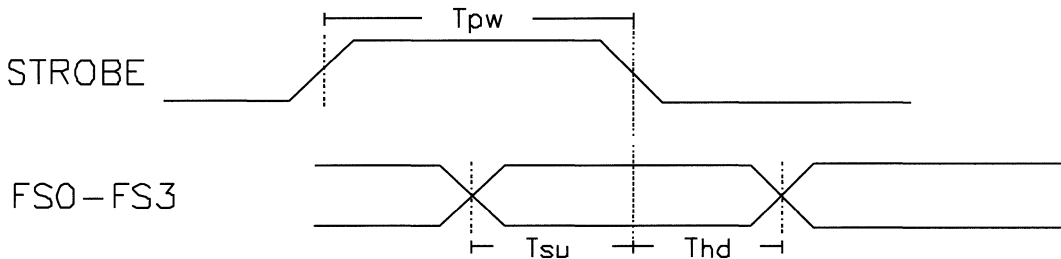

Figure 3
FS0 (4), FS1 (5), FS2 (7), and FS3 (8), are the TTL compatible frequency select inputs for the binary code corresponding to the frequency desired. STROBE (6), when high, allows new data into the frequency select latches; and when low, prevents address changes per Figure 3. The internal power-on-clear signal will force an initial frequency code corresponding to an all-zeros input state. MS0 (9) and MS1 (11) are the corresponding memory select inputs and are not strobed.